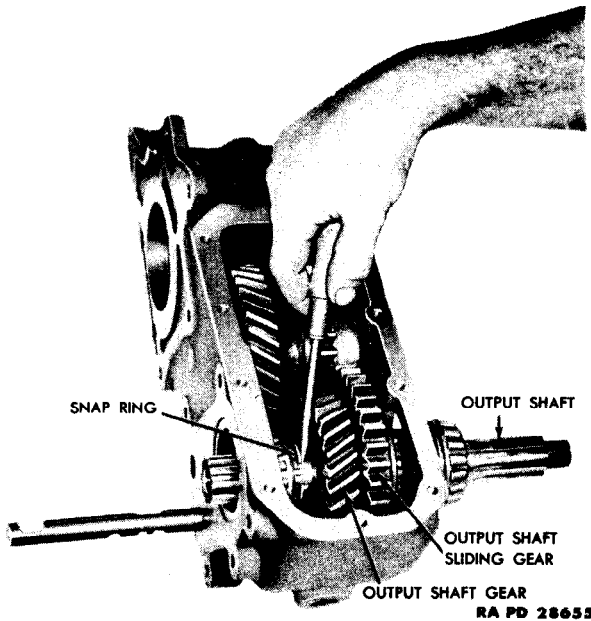

Figure 19 — Removing Snap Ring From Output Shaft
e. Remove Output Shaft (fig. 19). Insert a screwdriver between the snap ring and output shaft bearing and pry the output shaft bearing away from the snap ring. Remove the snap ring from the groove in the output shaft. Pull the output shaft out from the rear of the housing. The output shaft bearing, snap ring thrust washer, output shaft sliding gear, and output shaft gear can now be removed through the bottom of the transfer case.